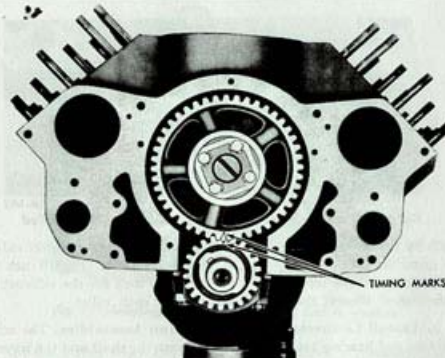

Fig. 62—Timing Marks
e. **Install Camshaft Assembly.** Slide the camshaft into the cylinder block, making sure the timing mark on the camshaft gear is in line with the timing mark on the crankshaft gear (fig. 62).